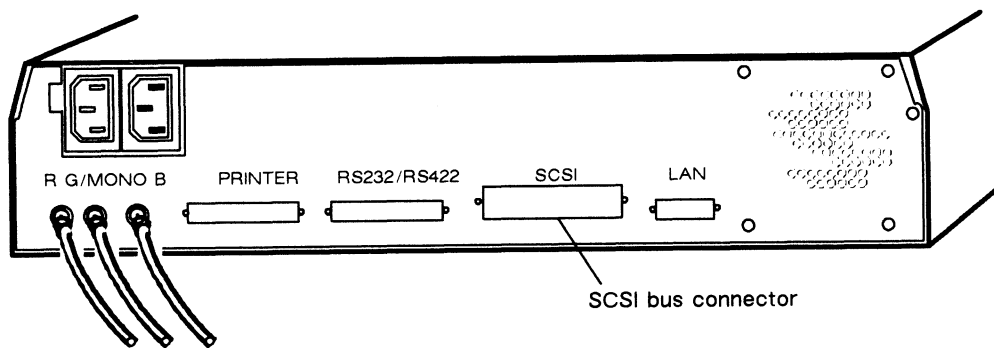

Figure 2-18 SCSI Bus Connector on the Back of the Computer Unit
1. Plug the SCSI bus cable into the SCSI bus connector as shown in Figure 2-18. Tighten the two screws on the SCSI bus cable to attach it to the SCSI bus connector.